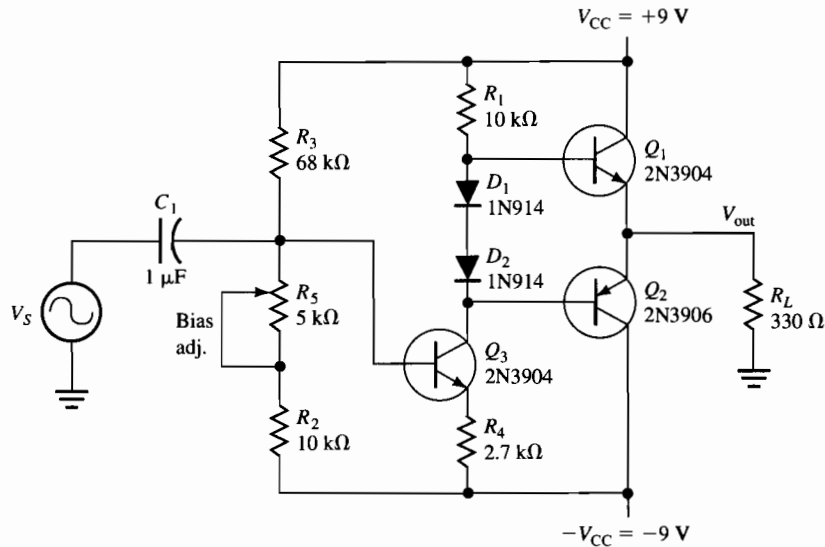

Figure 41–4
8. One common method for applying a signal to a push-pull amplifier is shown in Figure 41–4. The signal is amplified by Q_3 , a common-emitter amplifier. The quiescent current in the collector circuit is designed to produce the same dc conditions as in the circuit of Figure 41–3. The bias adjust allows the dc output voltage to be set to zero to compensate for tolerance variations in the components. Compute the dc parameters listed in Table 41–4. Assume the bias potentiometer is set to 3 k Ω and apply the voltage divider rule to find V_{B3} . Note that the voltage across the divider string is the difference between $+V_{CC}$ and $-V_{CC}$.